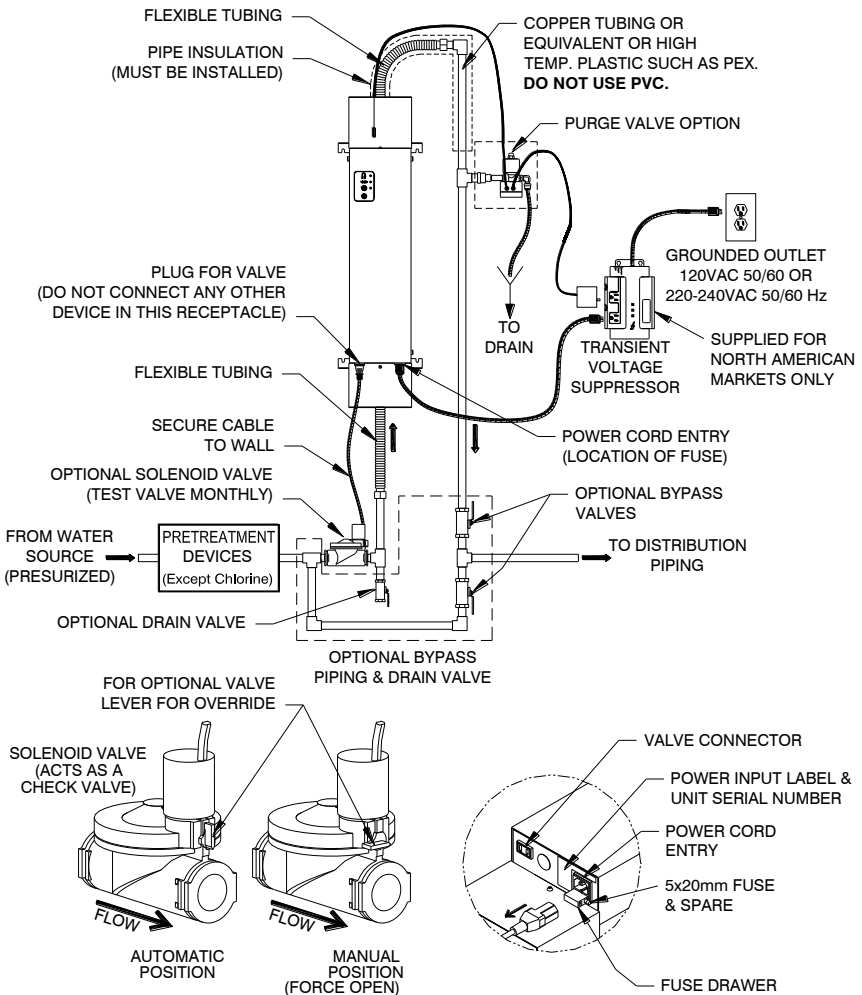

Figure 1B
There are two standard operating voltages for the Hallett unit. The unit may be 120Vac or 220-240 Vac. Please refer to the power input label located near the power cord entry of the unit. See Figure 1B. Record the operating voltage and serial on the front cover of the manual.
The Hallett requires male NPT fittings for the hose connections (make a note of the size 3/4", 1", 1.5"). These fittings and any piping compatible with the plumbing should be on hand before you begin installation. See Figure 1B and make a list of all necessary components including solder, paste and thread sealant. Bypass piping and valves that isolate the unit are optional, as is a drain valve for draining the unit.
Step 2: If you have decided to install an optional bypass line and drain, you may begin to install these fittings at this point. See Figure 1B for more information on how to connect optional bypass piping and drain.
Step 2: Plug the female end of the power cord into the power entry module located on the underside of the front panel. Note that the power entry module contains the only fuse for the unit, which can be accessed by pulling out the sliding fuse drawer. The power cord must be removed before changing the fuse. See Figure 1B